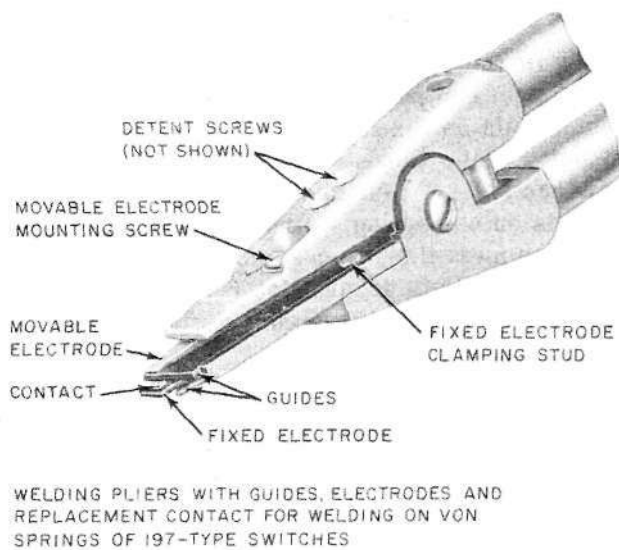

Fig. 4—577A and 577B Welding Pliers
3.15 Fixed Electrode: Fig. 4—To replace a fixed electrode, compress the handles of the welding pliers to open the jaws. Loosen the clamping stud carefully by turning it in a clockwise direction with the 3-inch C screwdriver just enough to permit the electrode to be removed. Place the slotted end of the replacing electrode in position so the electrode positioning stud on the pliers fits into the slot on the electrode, and then push the electrode toward the back of the pliers as far as the stud permits. Turn the clamping stud in a counterclockwise direction until the electrode is held securely.
3.16 Movable Electrode: Fig. 4—To replace a movable electrode, first remove the fixed
- (1) **197-Type Switches—VON and Rotary Interrupter Springs:** For welding contacts on the movable springs, the S guide is placed on the outside of the fixed electrode and the T guide on the inside facing the movable electrode as shown in Fig. 4. For welding contacts on stationary springs, the two guides are interchanged.
- (2) **229- and 230-Type Relays**
3.19 Center the movable electrode. Check whether the detent screws (see Fig. 4) are properly positioned for limiting the movement of the movable electrode to match the contact locating slots in